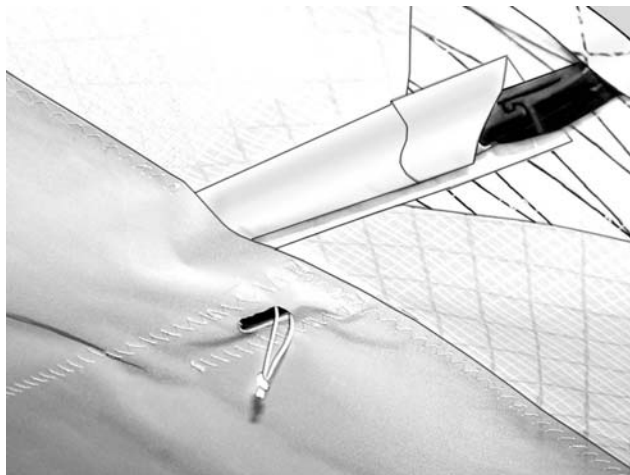

Fig. 14
12. Install the bottom surface battens (*Fig. 14*).